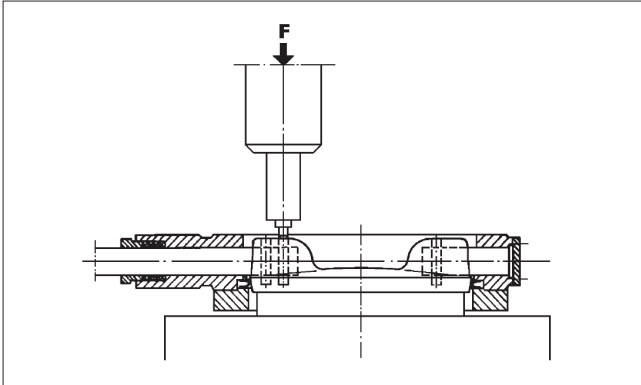

Fig. 17 Pressing the pins
- Support the disc well in a horizontal position during mounting of the pins. Push the new pins into the holes and press them in a press to final form (see Fig. 17). Use slightly larger tool than the pin diameter. See Table 7 for forces.